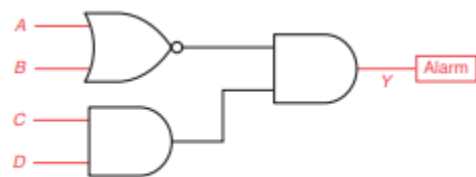

Figure 4-30 Logic circuit for Problem 3.
77. The logic circuit of Figure 4-30 is used to activate an alarm when its output Y is logic HIGH or 1. Draw a truth table for the circuit showing the resulting output for all 16 of the possible input conditions.